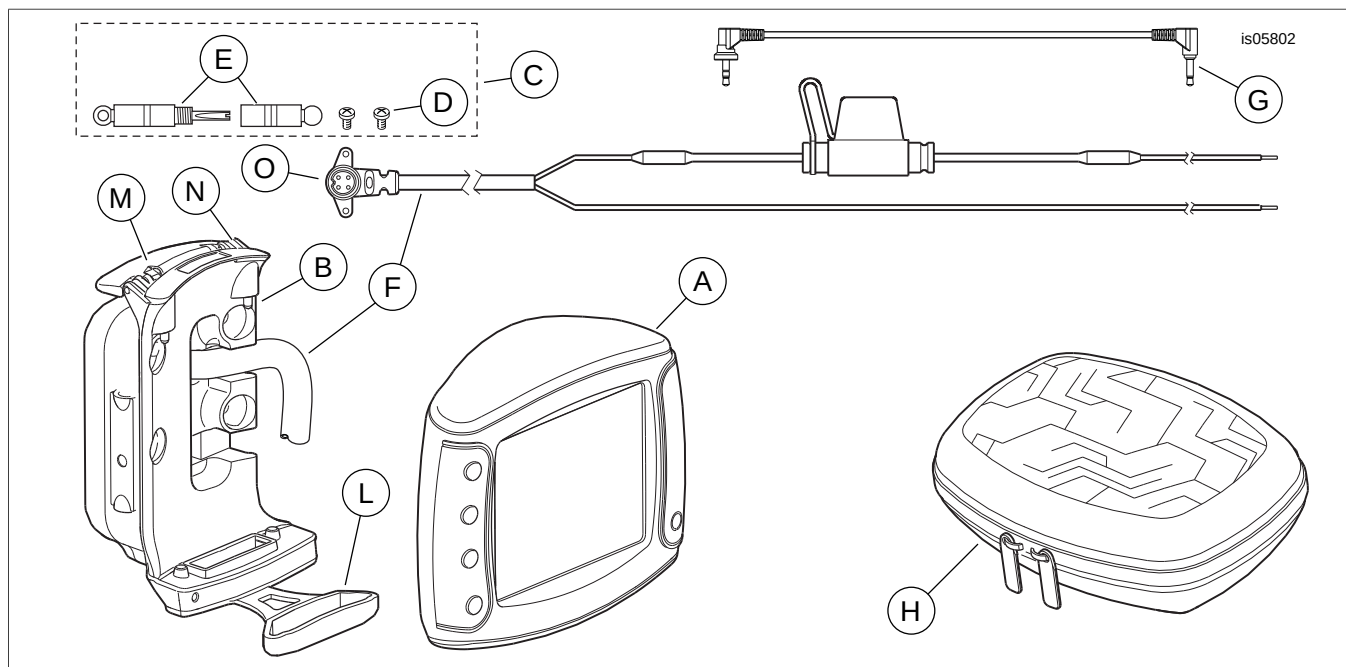

Figure 5. Service Parts, Zumo GPS Unit Kit
- See Figure 5. Obtain the Road Tech Zumo unit (A) from the GPS Kit.
- Flip the lever (M) on the cradle mount (B) up. Flip the weather cap (L) open.
- Position the Road Tech Zumo unit into the cradle mount, and flip the lever (M) down.
- Use the security screwdriver (E) to tighten the security screw (N).